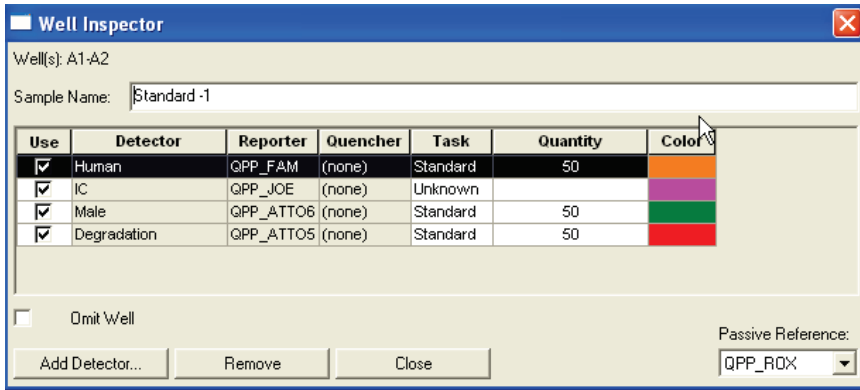

Figure 38. Well inspector.
3. Go to **View** and select **Well Inspector** from the menu (Figure 38, next page). In the **Task** column, define the wells that contain DNA standards for the QPP_FAM, QPP_ATTO550 and the QPP_ATTO647N channel as **Standard**. Name them as Standard (e.g., Standard 1 or Std1, Standard 2 or Std2, etc.), and enter the quantity of DNA in the well according to Table 10, page 56.